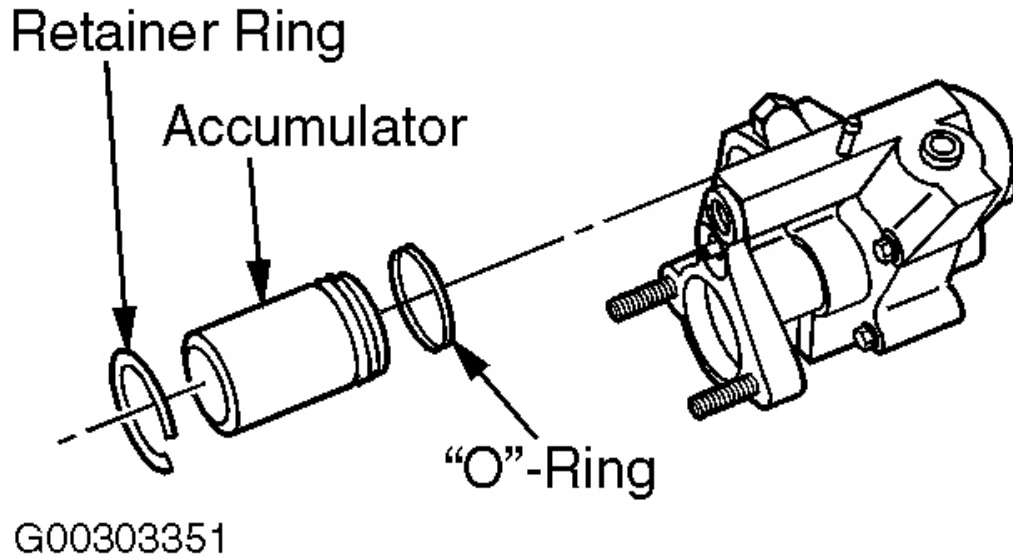

Fig. 34: Exploded View Of Accumulator Components
4. Remove the accumulator retainer ring using a small hook shaped tool. See **Fig. 34** . Release the C-clamp. Remove the nut from the stud. Remove the Accumulator Piston Compressor (J-26889). Remove the